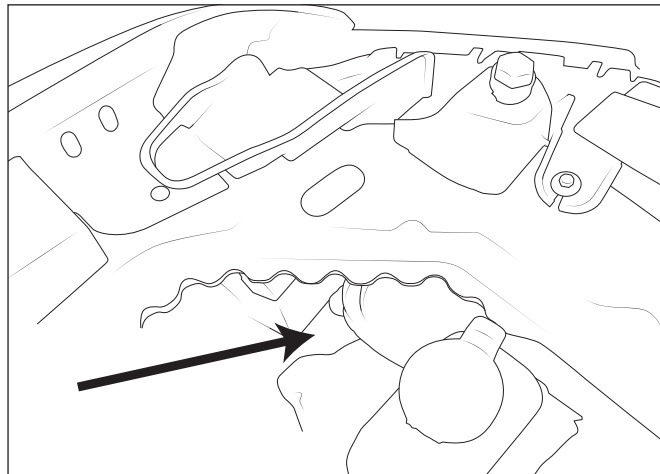

Figure 9
6. Remove ground cable from winch motor and route through the bottom of the engine bay in location shown (fig. 9).